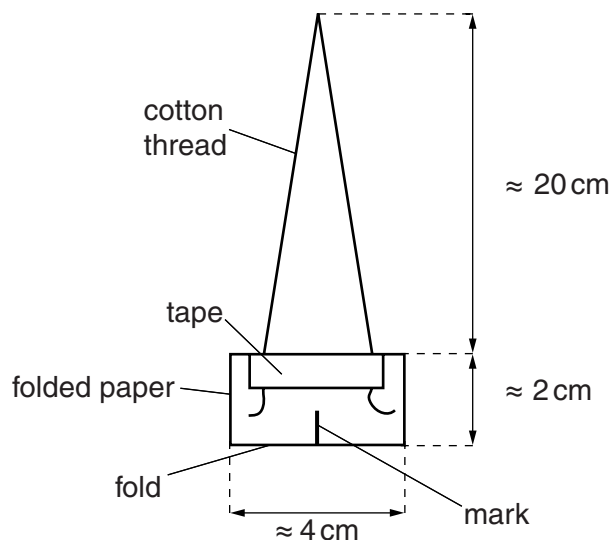
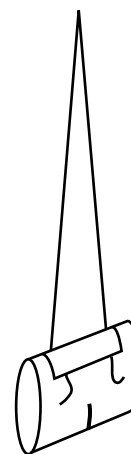

Fig. 2.2
Fig. 2.3
- 2 A paper loop should be constructed as shown in Fig. 2.2 and Fig. 2.3.